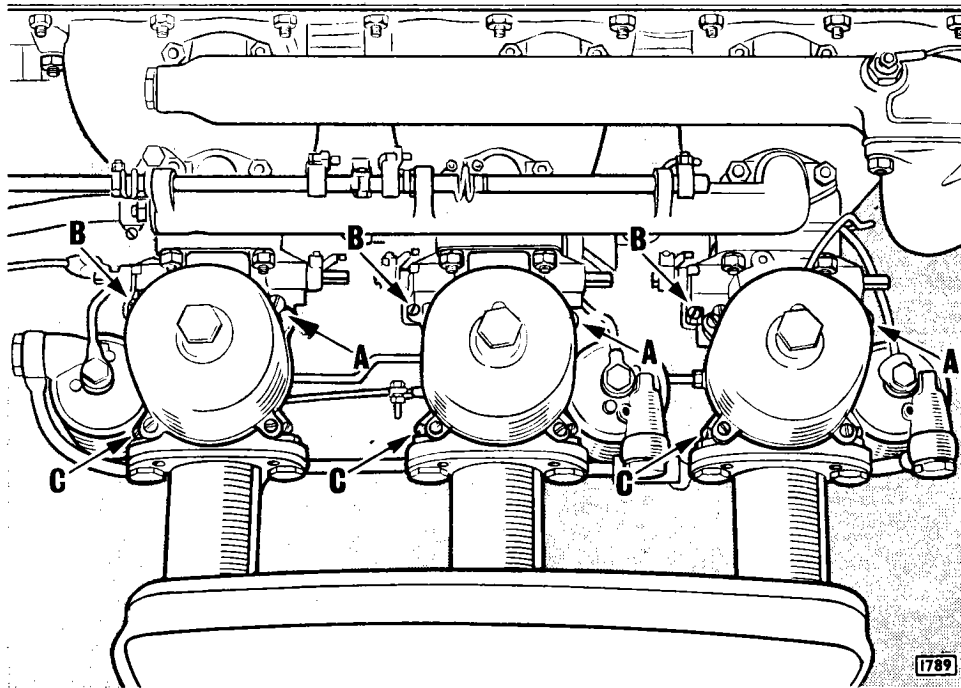

Fig. 9. "A"—Slow running volume screws. "B"—Fast idle screws. "C"—Mixture adjusting screws
If adjustment is required turn the three slow running volume screws (see Fig. 9) by **exactly equal amounts**
Screw down the slow running volume screws (A, Fig. 9) on to their seatings and then unscrew two full turns. Remove the piston and suction chambers; disconnect the mixture control linkage by removing the clevis pins from the connecting rod fork ends underneath the front and rear carburetters. Unscrew the mixture adjusting screws (C) until each jet is flush with the bridge of its carburetter. Replace the pistons and suction chambers and check that each piston falls freely on to the bridge of its carburetter (by means of the piston lifting pin). Turn down the mixture adjusting screws $2\frac{1}{2}$ turns.
Set the mixture control knob on the facia panel to the highest position in the slide immediately short of the position where the mixture adjusting screw levers (C Fig. 9) begin to move. This will be approaching the mid-travel position of the control knob and approximates to $\frac{5}{8}$ " (16 mm.) movement at the bottom of the